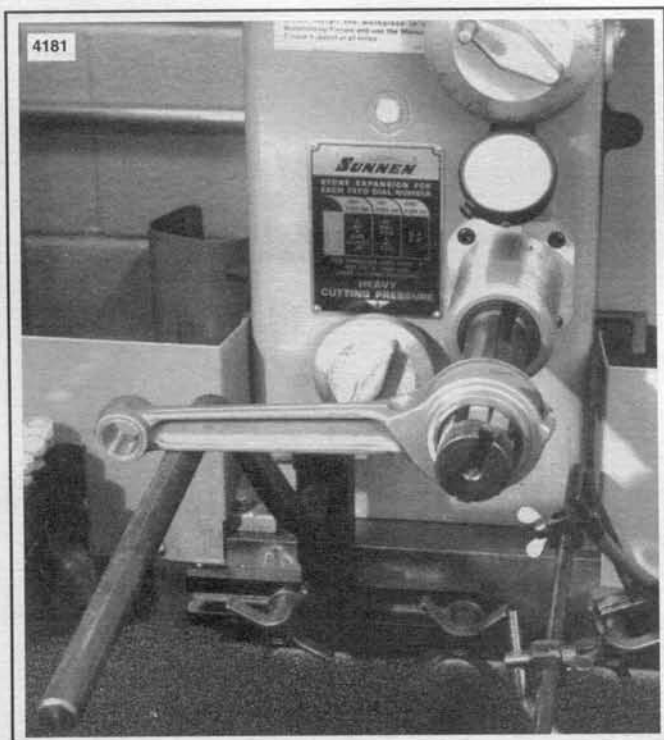

Figure 3-76. Lapping Connecting Rod
1. See Figure 3-76. Connecting rod lower races that are likely to clean up within the range of an oversize crankpin and are otherwise in serviceable condition, should be trued and sized up with CONNECTING ROD LAPPING ARBOR, Part No. HD-96740-36.